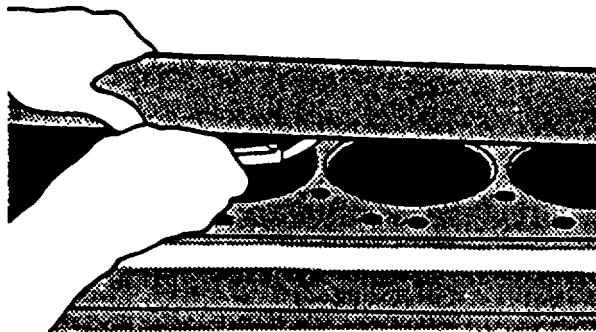

FIGURE 3-160. Measuring Cylinder Block Top Deck Flatness
- (6) Measure cylinder block top deck flatness using precision straightedge, refer to FIGURE 3-160. New flatness is 0.003 inch (0.08 mm). If flatness is not as specified, resurface engine block.